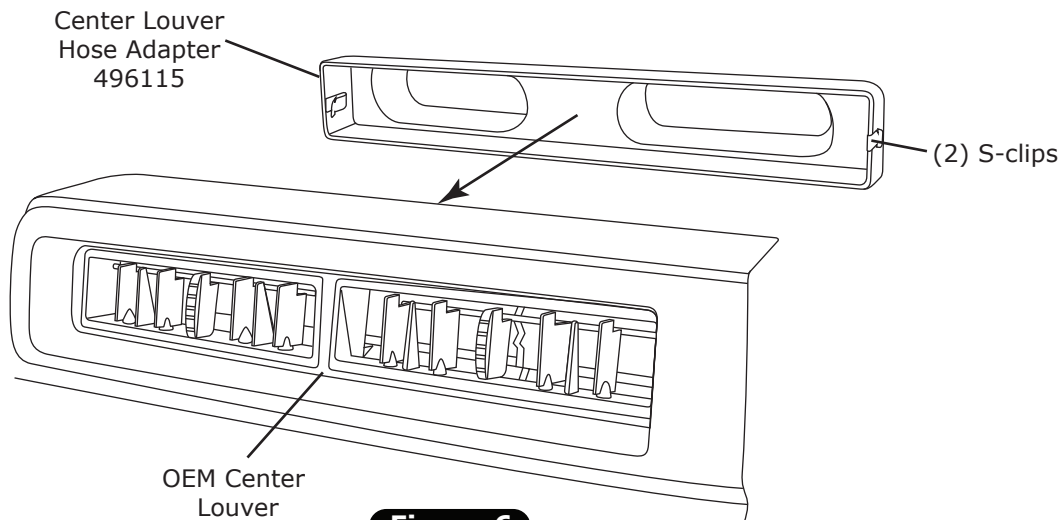

Figure 6
1. Install (2) S-clips onto center louver hose adapter (See Figure 6, below).
2. Install center louver hose adapter onto OEM center louver as shown in Figure 6, below.